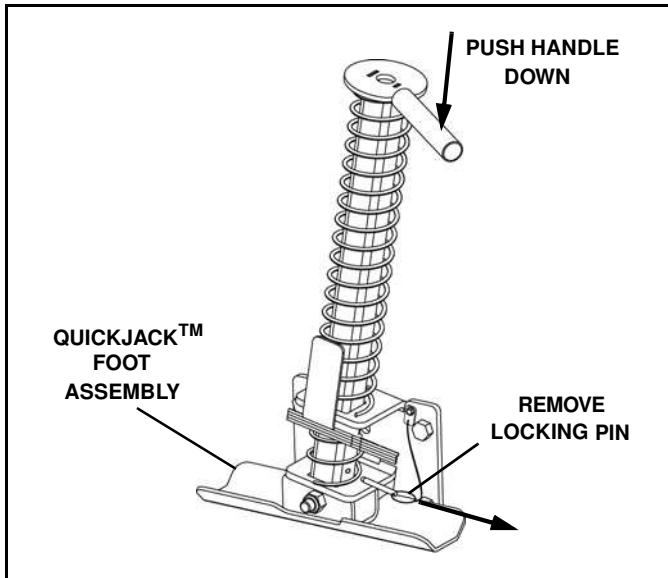

Figure 1-21
21. Raise the rear of the plow assembly, remove the QuickJack™ locking pin and push the handle down to fully lower the foot assembly. (See Figure 1-21).